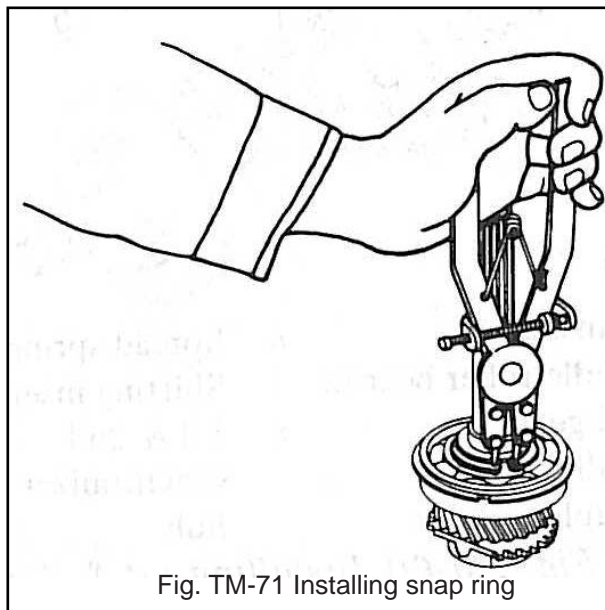

Fig. TM-71 Installing snap ring
3. Select and install a spacer of suitable thickness on the front side of main drive gear so that the minimum clearance between snap ring to spacer is obtained. At this time, install snap ring, in the groove of main drive gear. See figure TM-71.